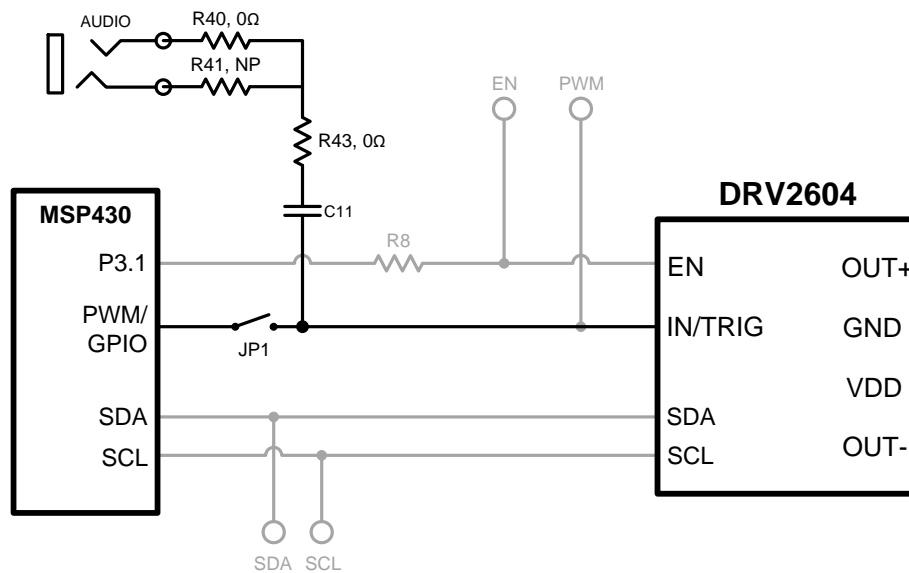

Figure 18. Analog Input
1. Apply an analog signal (not PWM) to the AUDIO jack on the left side of the board. The tip of the inserted male 3.5 mm jack is applied to the IN/TRIG pin of the DRV2604. See Figure 18.